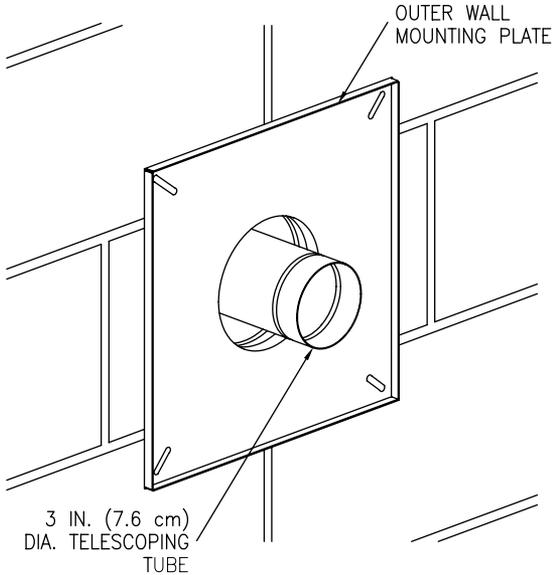

Figure 9
10. From outside the building, slide the five (5) inch (12.7 cm) diameter telescopic tube through the opening in the wall until the outer wall mount plate is flush with the wall (See Figure 9).